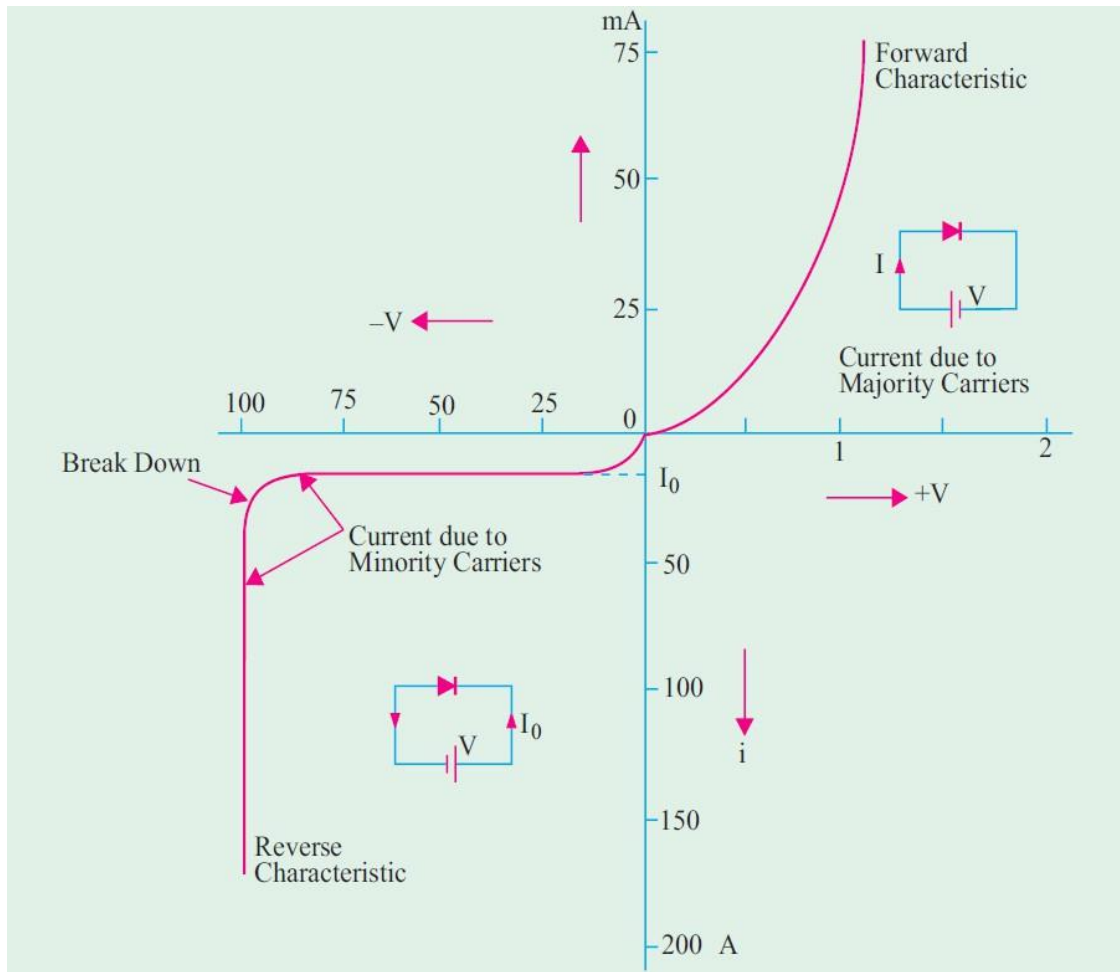

Figure 1. Voltage-Current Characteristics of Practical Diodes
- Figure 1 given below depicts the Voltage Current Characteristics of a Low Power PN Junction Diode